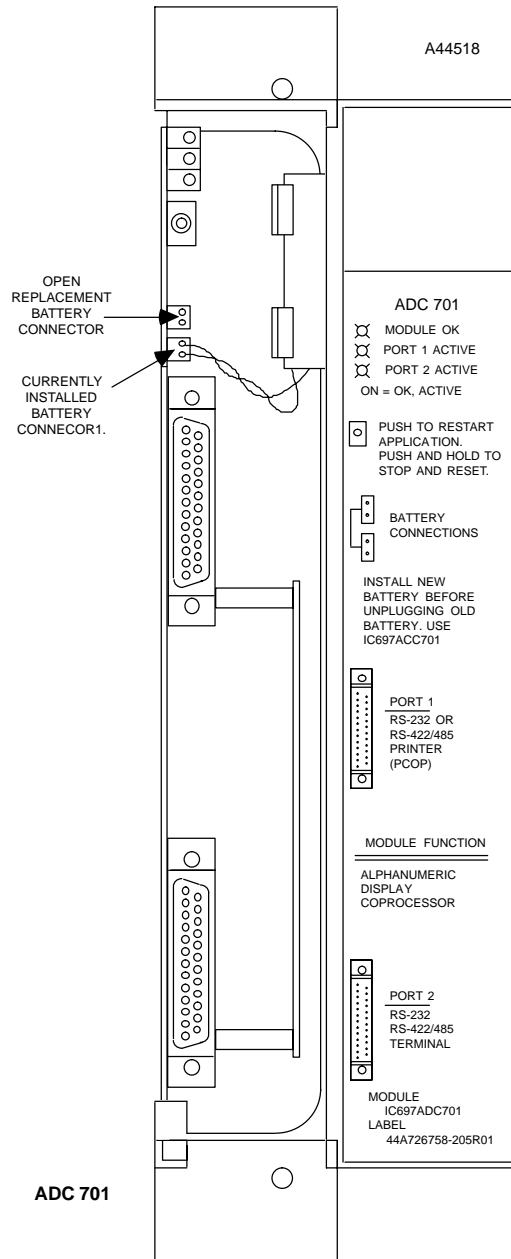

Figure 2. Alphanumeric Display Coprocessor Module - User Details
- Connect the battery to either of the battery connectors on the module (see figure 2).
Three Status LEDs are available as shown in figure 2. The top LED indicates the condition of the ADC module, the bottom two LEDs indicate serial port activity.
A lithium battery (IC697ACC701) is installed as shown in figure 2. This battery maintains user memory when power is removed. Be sure to install the new battery in the unused battery connector before removing and discarding the old battery. If during power-up diagnostics a low battery is detected, the Module OK LED (top) will not stay on.